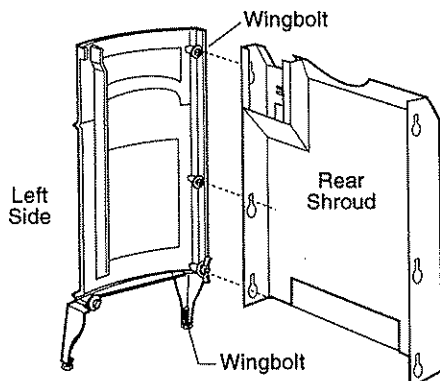

Figure 15. Secure Left End to the Rear Shroud.
1. Attach the Rear Shroud to the Left End plate by aligning the key holes with the two wingbolts in the side. If necessary, turn the wingbolts to orient the blades vertically. Fig. 15. Slide the shroud downward to engage it behind all three washers on the side plate bolts and then tighten both wingbolts.